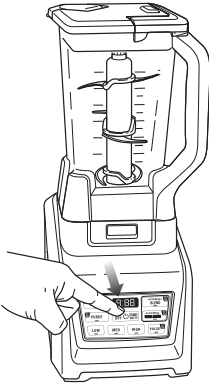

Fig. 7
- 9 Press the power button to turn on the unit. Select the speed or AUTO-iQ™ Program that best suits your needs. The AUTO-iQ™ program will stop the appliance automatically at the end of the program. (Fig. 7)